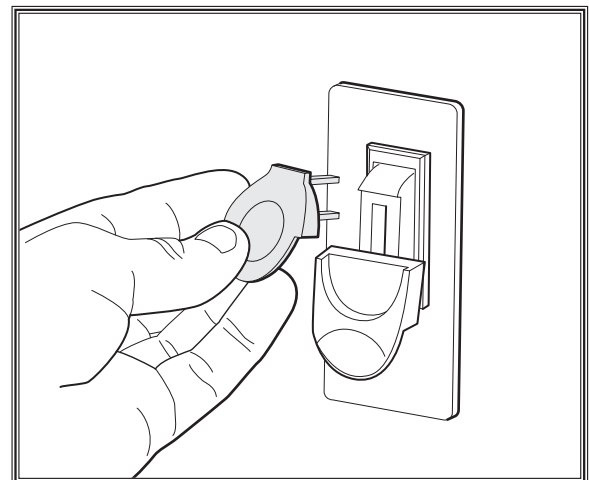

Figure 12. Removing lockout key from switch.
6. Remove the switch disabling key (see **Figure 12**).